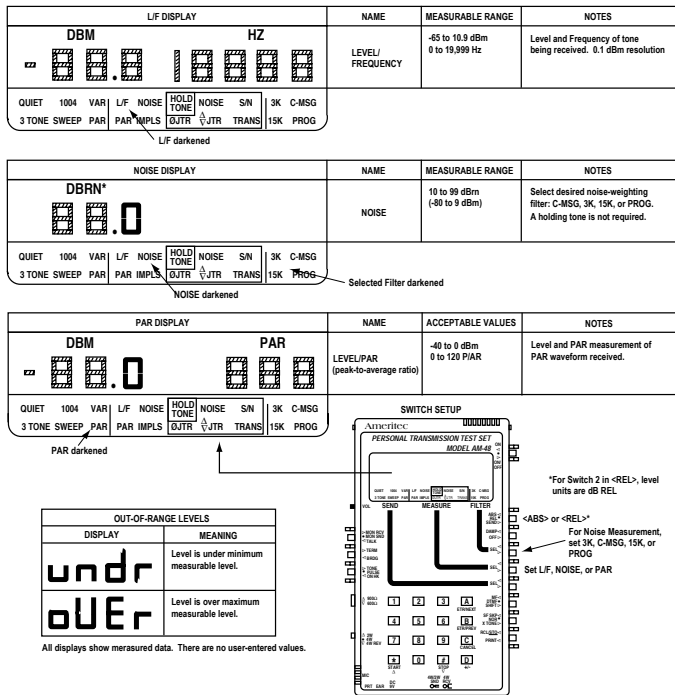

Figure 7-5. L/F, NOISE, and PAR MEASURE Displays
3. See Figure 7-5. Set switches per the SWITCH SETUP illustration, and set the MEASURE cursor per the top menu illustration (L/F DISPLAY).
3. See Figure 7-5. Set switches per the SWITCH SETUP illustration, and set the MEASURE cursor per the middle menu illustration (NOISE DISPLAY).
4. A noise-weighting filter is used for this measurement. Set the FILTER cursor for the desired filter as indicated in Figure 7-5.
3. See Figure 7-5. Set switches per the SWITCH SETUP illustration, and set the MEASURE cursor per the bottom menu illustration (PAR DISPLAY).